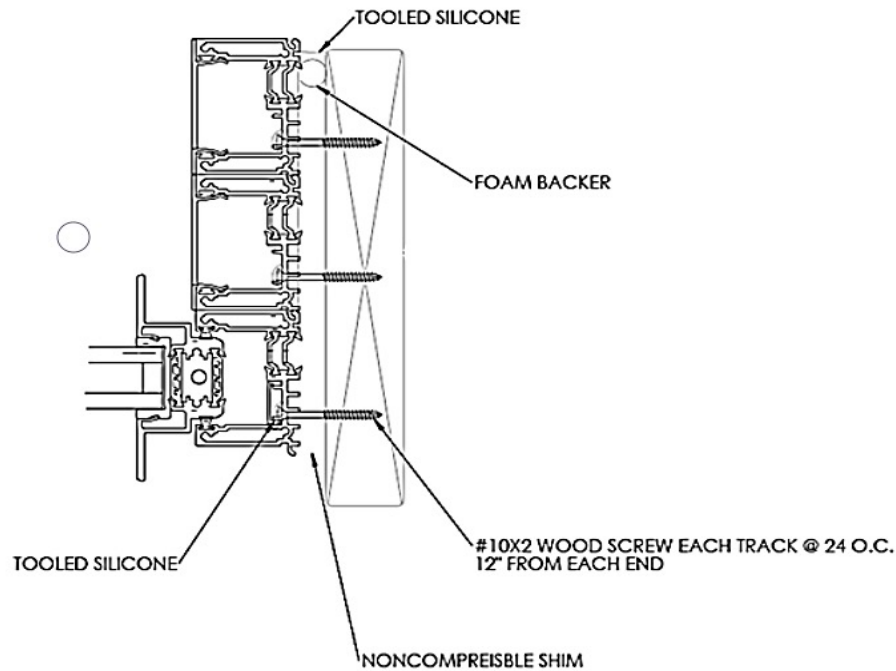

Figure 7
- Shim the lock jamb/s as required to ensure they will be plumb and anchor to the structure through the additional holes using #10 X 2.5" flat head screws. See **Figure 7**.